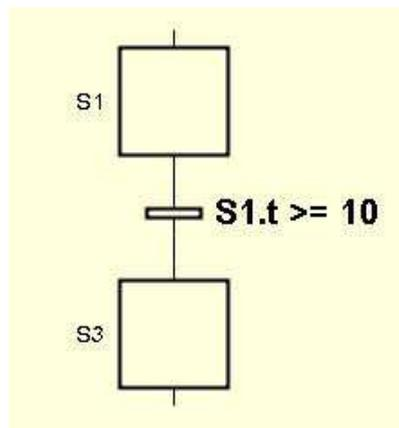

Figure 8 Transition
Transitions Transitions represent conditions or events that should be true (1) in order for the Grafset to change state. The transition expression is represented by a text string associated with the transition, see Figure 8. A transition expression is edited